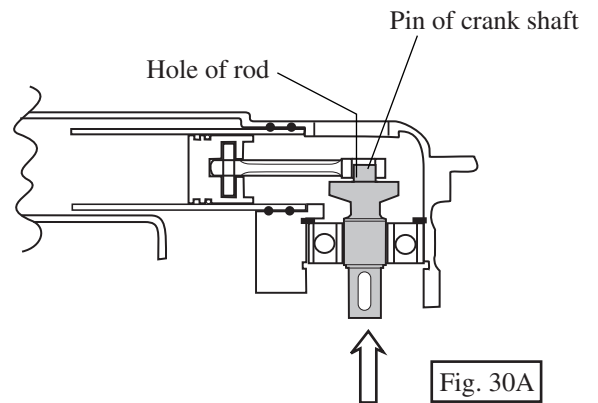

Fig. 30A
- (2) Press the crank shaft into crank housing with fitting the pin of crank shaft in the hole of rod. as illustrated in Fig. 30A.